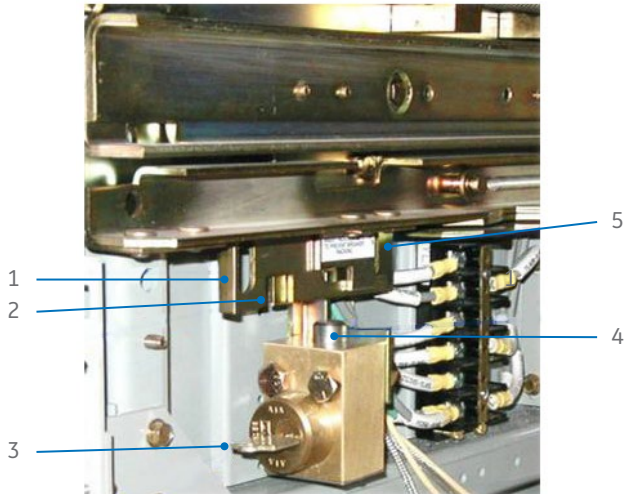
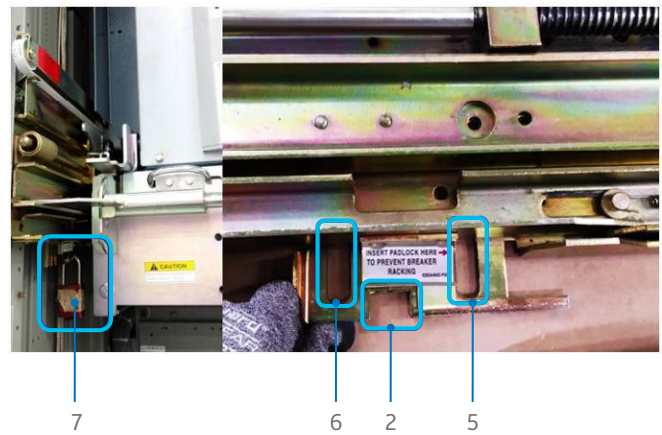

Figure 19: Padlock-Key Lock Interaction Mechanism
Figure 20: Padlock
To achieve this locking position, the SecoVac element must be opened/tripped, then push rearwards the sliding link Figure 19,1 until item 2 match (shown on Figure 19, 2). Rotate the
The padlock system located on the left-hand side of the switchgear has two positions, capable of holding up to three padlocks on each position, see Figure 20.
To prevent the breaker from closing when it is in the “DISCONNECT/TEST” and/or “CONNECTED” positions, the SecoVac module must be opened/tripped, to obtain this position sliding link must be push rearwards Figure 19,1 until slots share concentric places, see Figure 20 item 6, then insert the desired amount of locks. This gives the same interlocking functionality as the keylock and it does not block the motion of the racking mechanism.
To lock the motion of the racking mechanism it is needed to use the second locking option of the padlock system Figure 20 item 5 (Slot 2) by keeping the hexagon turning shaft covered, the SecoVac element can be on its CLOSED or OPENED state and it can be located on the “DISCONNECT/TEST” or “CONNECTED” positions.